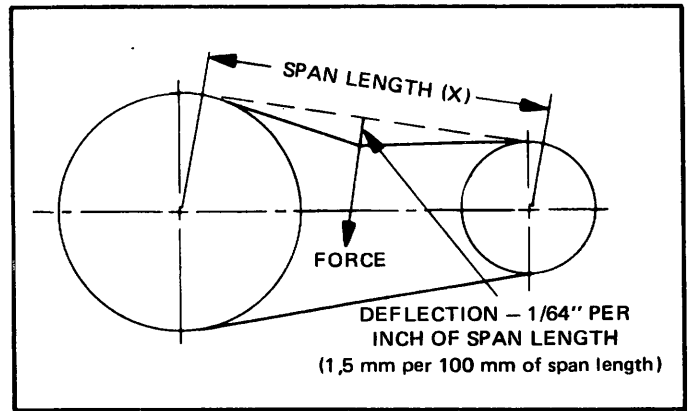

FIGURE 45
- 1 - Measure the span length, X. Refer to Figure 45.